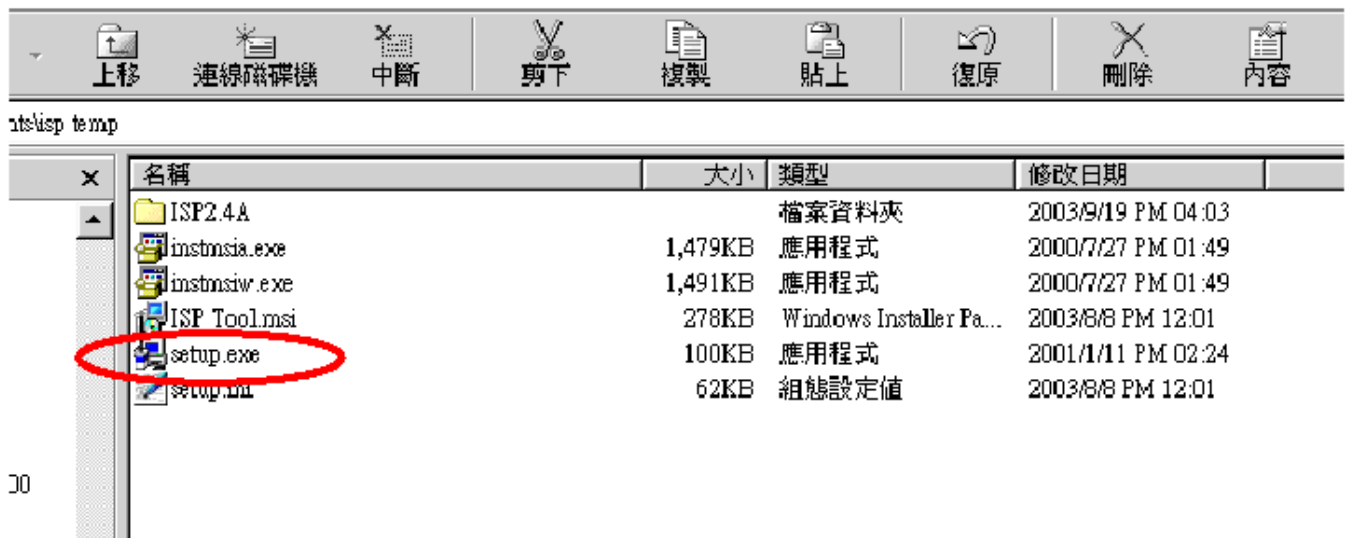

Fig 2.2
2.2 After extracting the zip file, the total files list as Fig 2.2, and double click the file of setup.exe to install.